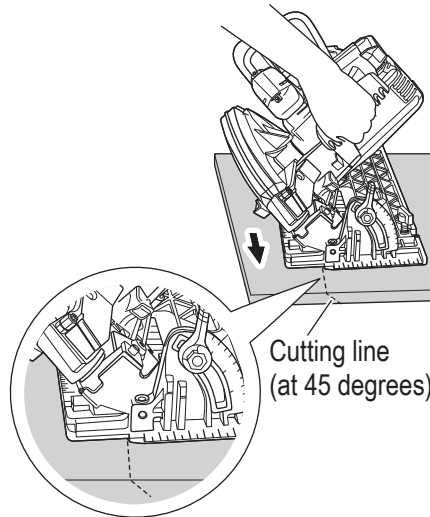

**Fig. 34**
- (1) Place the base on the material, then align the premarked line and the saw blade with the notch at the front of the base (**Fig. 34**).
- (2) When the base is not inclined, use the right side of the notch (**Fig. 34, Fig. 35**).
If the base is inclined (45 degrees), use the left side of the notch (**Fig. 34, Fig. 36**).
- (4) Tilt saw forward and align the notch (**Fig. 34** on page 77) with the pre-marked guide line.
- (5) Release the lever. When the lower guard contacts the work piece surface, it will be in proper position to open freely when cutting is commenced.
- (6) Holding the saw in position, with the blade not contacting the work piece surface, pull the trigger.
- (7) After the saw has reached full speed, gradually lower rear end of the saw until its base rests on the work surface.
- (8) Advance saw along the cutting line up to the corner.
- (9) Release trigger and allow blade to stop completely before withdrawing the blade from the work piece.
- (10) Use a jig saw or hand saw to cut the corners out clean.
- (11) When starting each new cut, repeat as above.